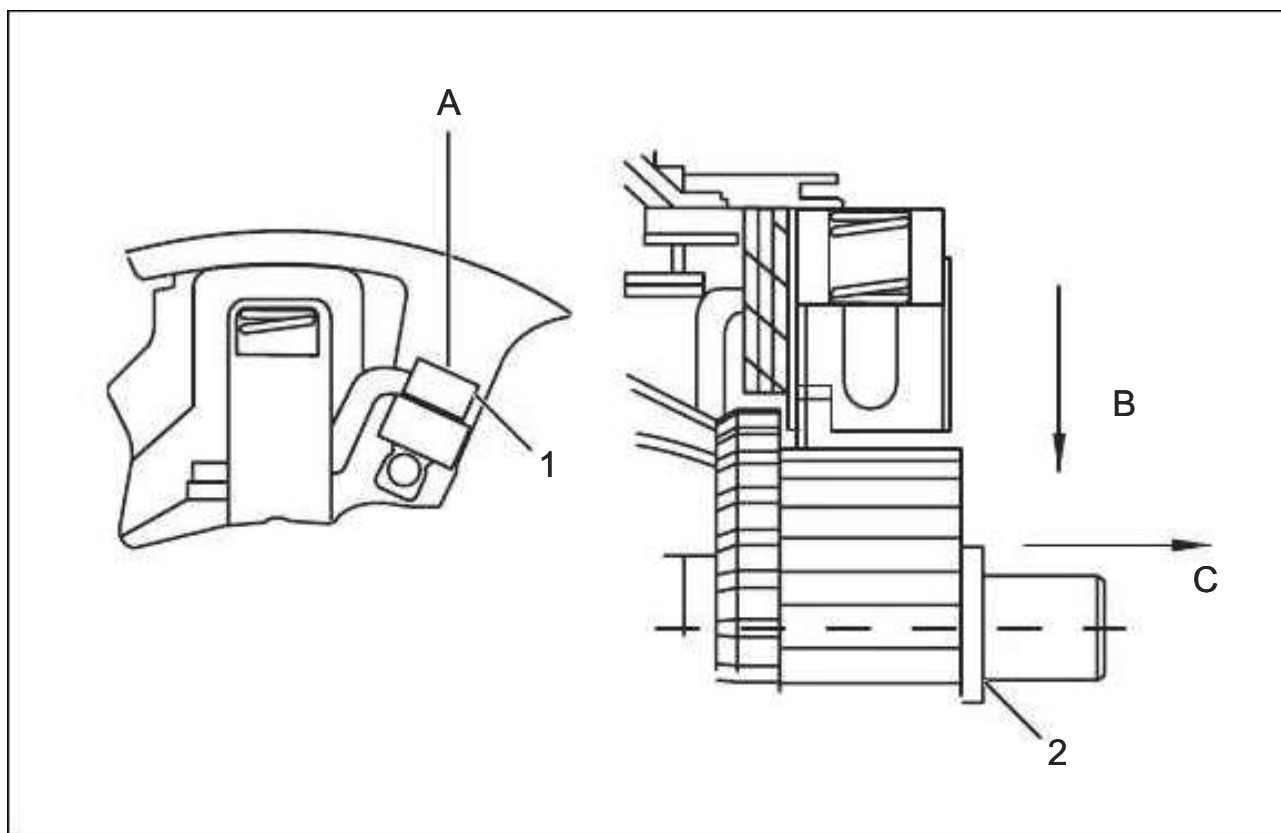

**Figure 8.15**
7. Disconnect all four brushes by loosening the screws, pos. 1 figure 8.15 - A. Now press each brush set to the commutator pos. 2 figure 8.15 - B. Remove the brush set from the brush rocker - C. The old brush set is replaced with a new set in the reverse order. It is recommended to replace each brush set separately to avoid confusion. Make sure that each brush set is replaced with the correct part, in other words one that has the cable on the correct side. (The service kit consists of two matching pairs of brush sets!)
8. Tighten the screw, pos. 1 figure 8.15, to approx. 1.3-1.8 Nm.
9. Replace the terminals in the slots in the rear end head, and replace it on the motor. Check that there is a washer between the rotor and end head (pos. 2 figure 8.15) and that the holder is held in place with a tooth and slot on the casing in the respective end.